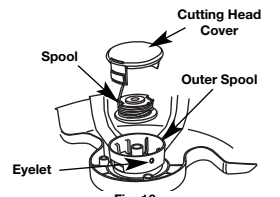

Fig. 16
2. Remove the inner reel from the outer spool (Fig. 16).
10. Install the cutting head cover over the inner reel. Align the tabs on the cover with the slots in the outer spool and press the cover down evenly until it snaps into place (Fig. 16).
4. Insert the end of the line of the pre-wound reel through the eyelet in the outer spool (Fig. 16).
5. Place the inner reel inside the outer spool (Fig. 16).